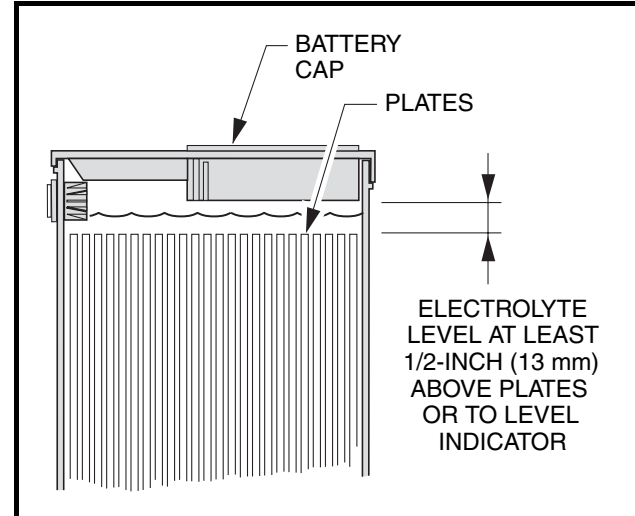

Figure 11-5 Battery Electrolyte Level
1. Be sure that the battery has sufficient water to cover the plates by approximately 1/2-inch (13 mm) and is fully charged prior to beginning the test. If water must be added, recharge the battery before performing the hydrometer test (**Figure 11-5, Page 11-10**).